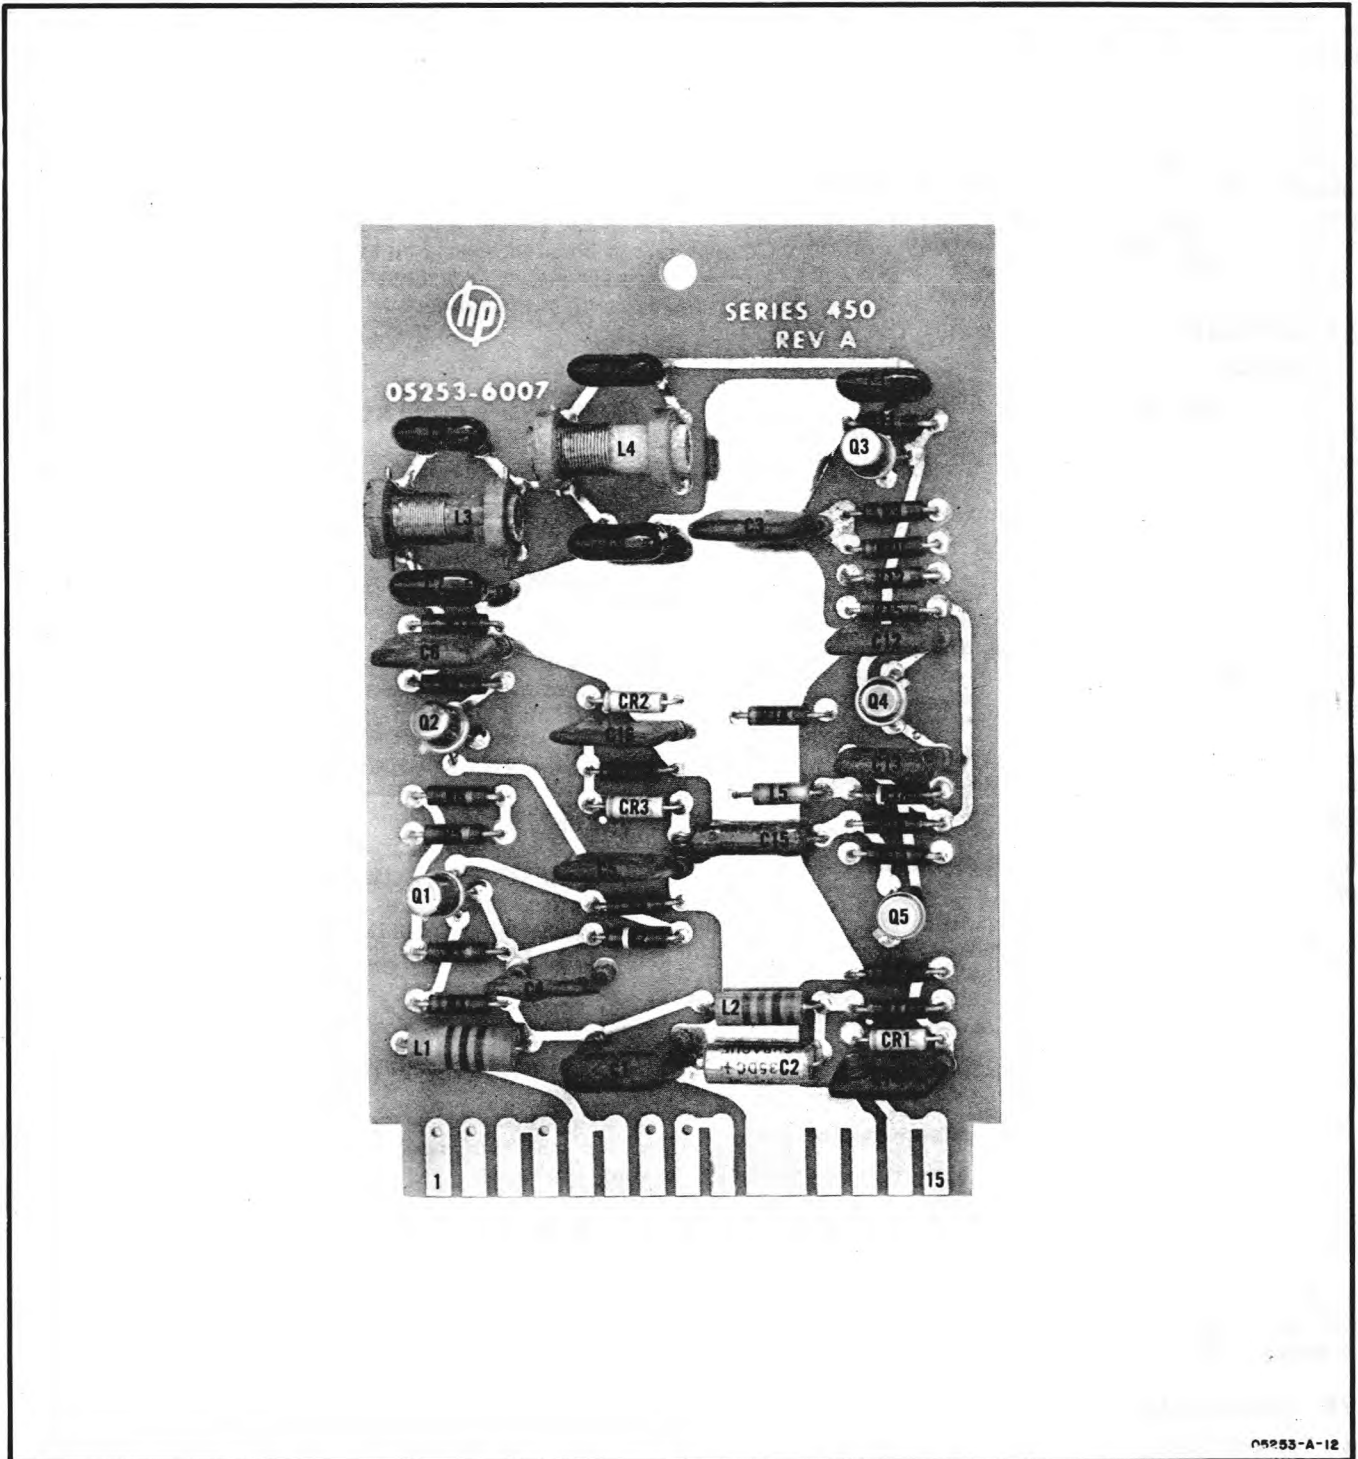

Figure 5-1. Video Amplifier Assembly A1 Component Location
f. Using plastic tool, adjust variable inductor A1L4 (see Figures 5-1 and 5-5) for minimum reading of RF Millivoltmeter.
h. Using plastic tool, adjust variable inductor A1L3 (see Figures 5-1 and 5-5) for minimum reading of RF Millivoltmeter.